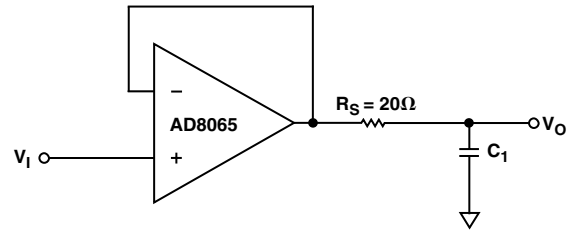

Figure 7. Output Isolation Resistor
- 1) As shown in Figure 7, put a small value resistor ( $R_S$ ) in series with the output to isolate the load capacitor from the amp's output stage. Twenty ohms is a good value to choose (see TPC 7).